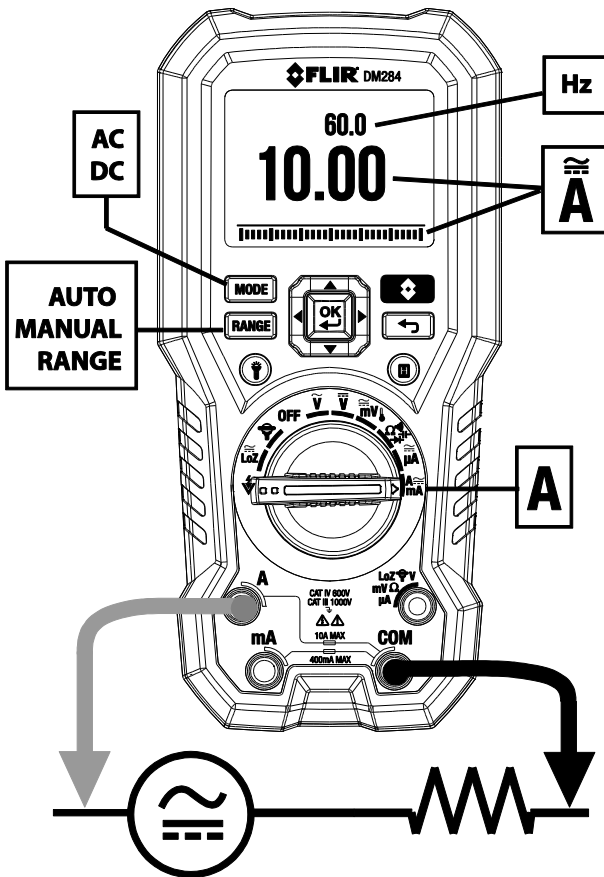

Fig. 7-9 High Current 'A' Measurements
4. Connect the probe leads in series with the part in accordance with **Fig. 7-8** and **Fig. 7-9** for 'A' measurements, **Fig. 7-10** for mA measurements, or **Fig. 7-11** for μ A measurements.